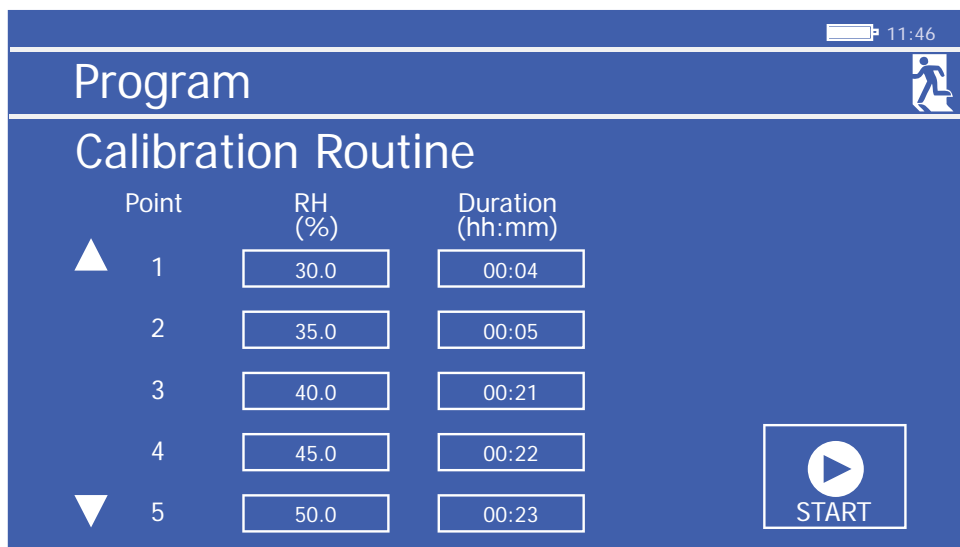

Figure 31 Example of Calibration Routine
**NOTE: The duration does not include time taken to reach and stabilize on the target. The duration time starts to count down once the measured RH value has been stable to within ± 0.5% of the set point for 20 seconds.** Consider the example calibration routine in *Figure 30*, and its visualization in the chart in *Figure 31*.